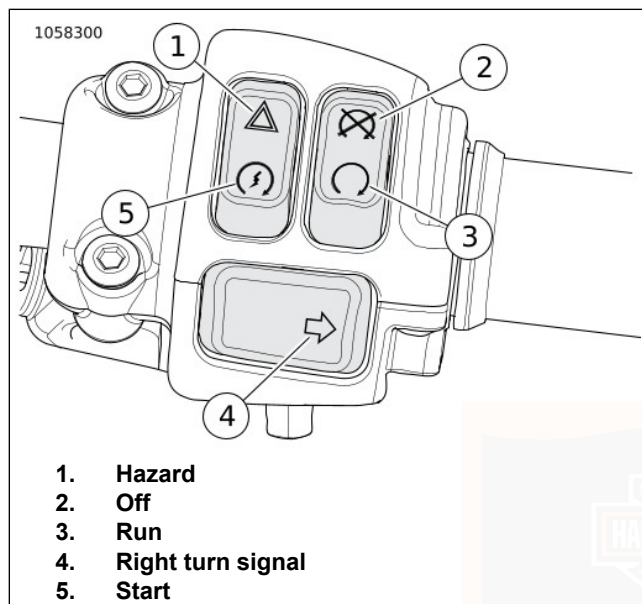

Figure 34. Right Hand Control Switches
2. See Figure 34. Switch the OFF/RUN switch to the RUN (3) position.